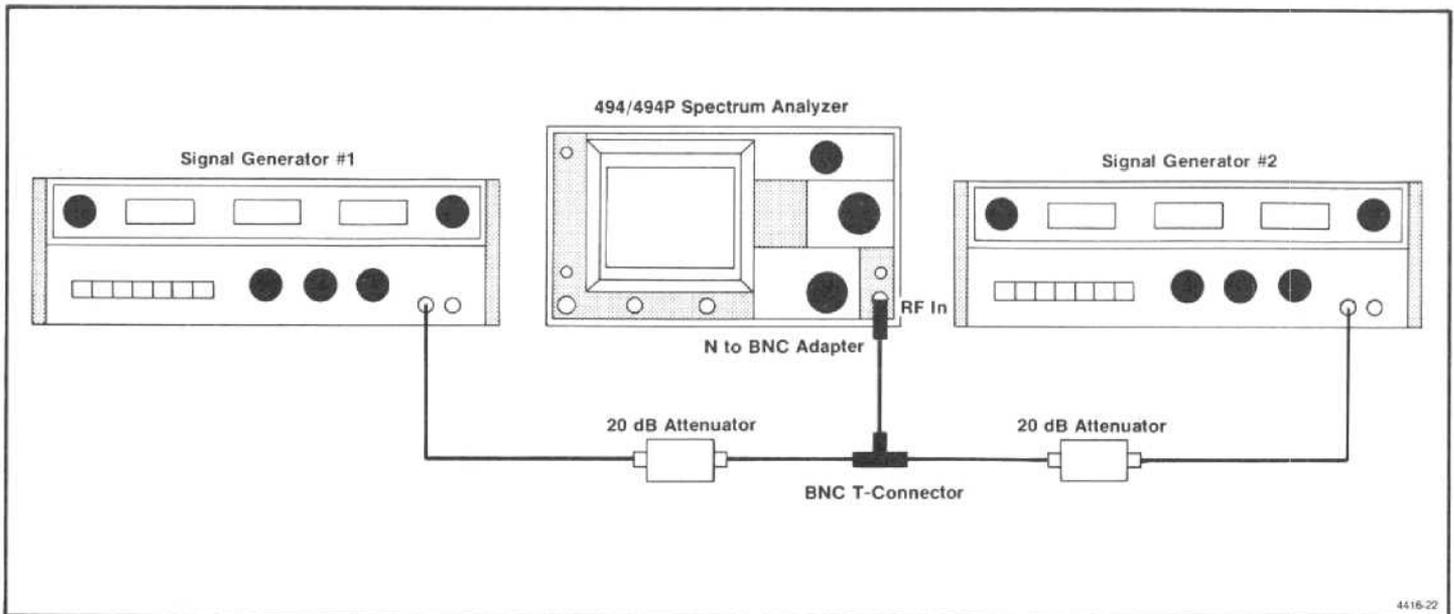

Figure 4-15. Test equipment setup for checking intermodulation distortion.
a. Equipment setup is shown in Figure 4-15. Set the FREQ SPAN/DIV to 5 MHz, RESOLUTION BANDWIDTH to 100 kHz, REF LEVEL to -30 dBm, and FREQUENCY
b. Apply two signals, from two $50\ \Omega$ sources, that are separated about 2 MHz and within the frequency range of band 1. Apply the signals through 20 dB attenuators (for isolation), a bnc "T" connector, and bnc-to-n adapter, to the RF INPUT (see Figure 4-15).